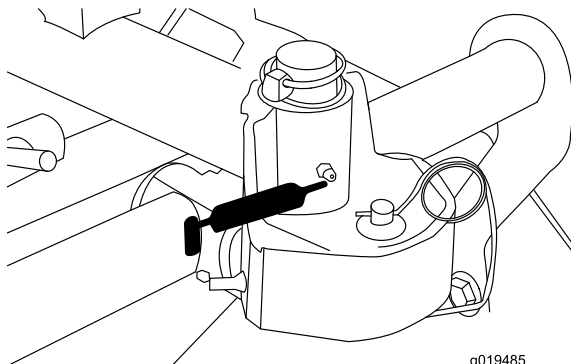

Figure 35
- Cutting unit carrier frame and pivot (2) (Figure 35)